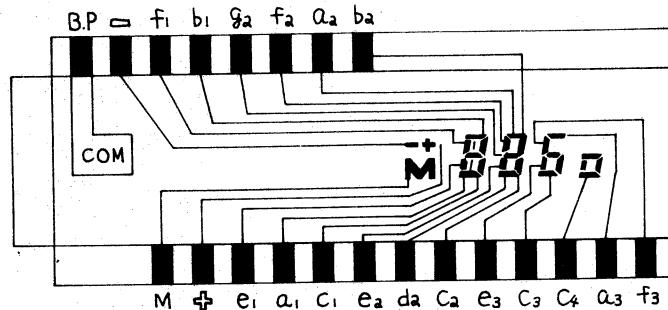

fig.26 LCD #1024
- 5) LCD functions as follows; LCD comprises BP (Back Plate) and segments for figure display. See Figure 26. When there is a potential difference between BP and a segment, the configuration of molecules changes to shade the light. See Notice 9. For instance, see f2 in Figure 24. When Power SW closes, f2 has a reverse pulse to BP's pulse. Thus, it provides the potential difference of  $\pm 6$  V to figure 5 of **250**. Next, stopping down the aperture by 1 EV, f2 has a similar pulse to BP's pulse. So LCD does not shade the color as 2 of **125**. See that C1 shows another example in this function.